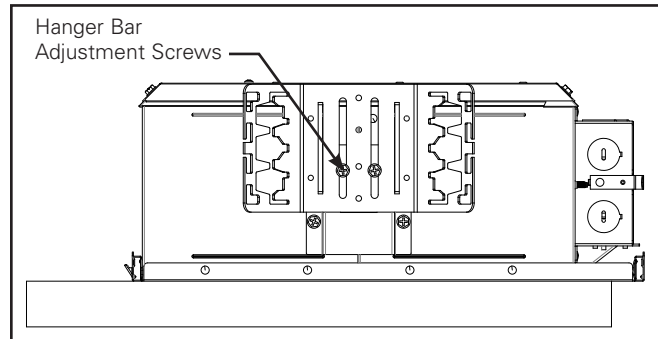

Figure 2
2. Hanger bar bracket should be adjusted as needed (screws, see Figure 2).